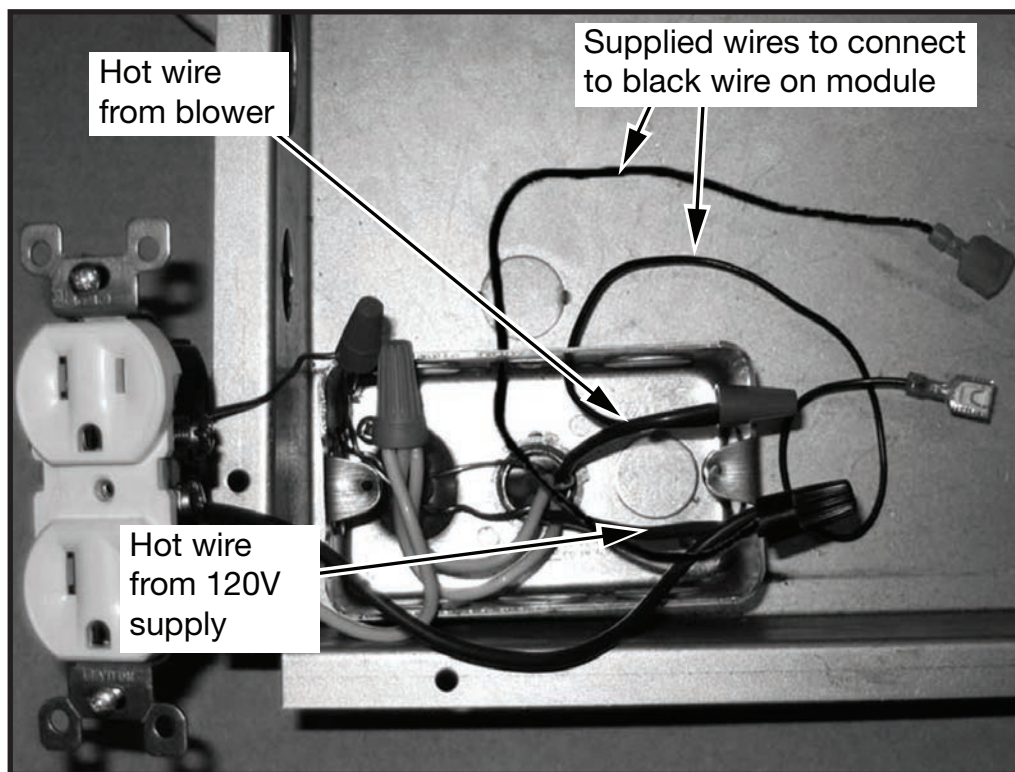

Figure 7: Control module wiring.
4. Using the jumper wires provided, connect the 120V “hot” supply wire to one of the black wires from the control module. Then connect the “hot” wire from the power vent blower to the other black wire on the control module (Figure 7). The module acts as a switch to turn on the power vent blower. (Also see wiring diagram on Pg.14)